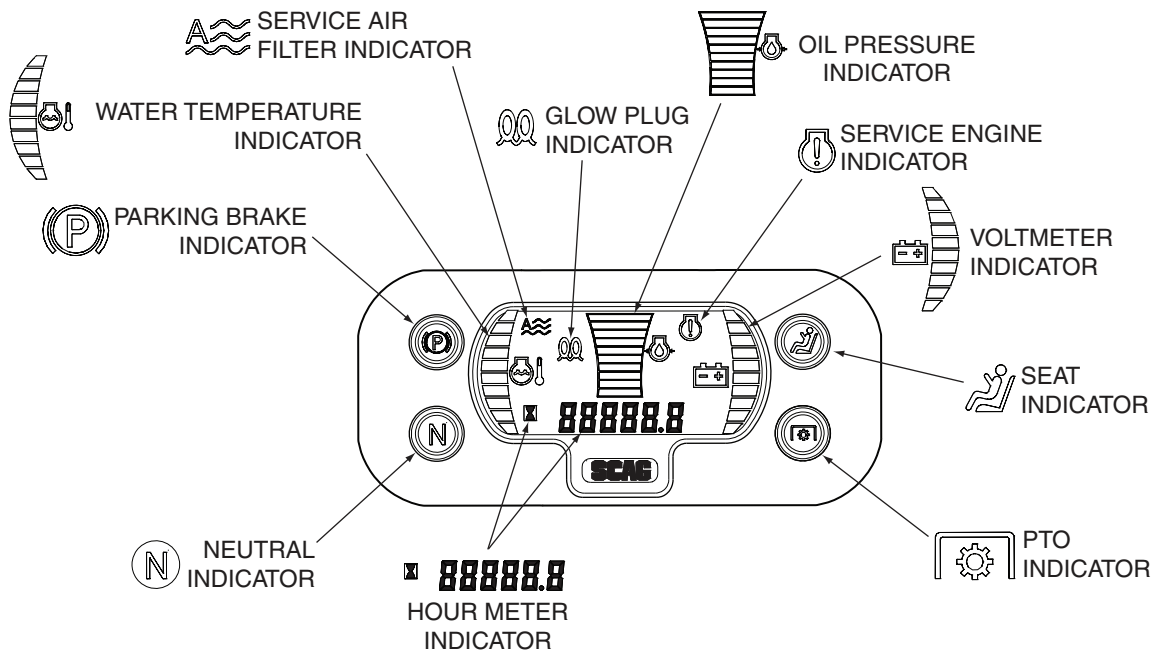

Figure 4-1. Tiger Eye Advanced Monitoring System
1. **Service Air Filter Indicator (Figure 4-1). Optional Accessory.** Indicates the condition of the engine air filter. Icon will display when it is time to change the air filter.
2. **Glow Plug Indicator (Figure 4-1). Used on Diesel Powered Units Only.** Indicator turns on when the key switch is turned to the PREHEAT position. Glow plugs must be preheated for 5 to 10 seconds before starting the engine.
3. **Oil Pressure Indicator (Figure 4-1). Used on Diesel Powered Units Only.** Indicates engine oil pressure. Reference the engine operator's manual for further information.
4. **Service Engine Indicator (Figure 4-1).** Indicates the maintenance reminder for the engine oil change. Has preset maintenance reminder and will start flashing scheduled maintenance 2 hours before preset time and continue flashing until 2 hours after. Automatically resets.
5. **Voltmeter Indicator (Figure 4-1).** Indicates the condition of the charging system. When the engine is running, in normal operating conditions, the bar graph should be in the 12 to 14 volt range.
6. **Seat Indicator (Figure 4-1).** Light will illuminate when the operator is in the seat engaging the seat switch.
7. **PTO Indicator (Figure 4-1).** Light will illuminate when the PTO (mower deck) switch is in the OFF position.
8. **Hourmeter Indicator (Figure 4-1).** Indicates the number of hours the engine has been operated. It only operates when the engine is running. Will start flashing with the Service Engine Indicator at scheduled maintenance 2 hours before preset time and continue flashing until 2 hours after. Automatically resets.
9. **Neutral Indicator (Figure 4-1).** Light will illuminate when the steering control levers are in the neutral lock position.
10. **Park Brake Indicator (Figure 4-1).** Light will illuminate when the park brake is in the engaged (ON) position.
11. **Water Temperature Indicator (Figure 4-1). Used on Liquid Cooled Models Only.** Indicates the operating temperature of the engine. If the engine temperature exceeds the maximum preset value, the indicator will flash and the Park Brake, PTO, Seat and Neutral indicator lights will flash in an alternating pattern.
7. **Brake Pedal (Figure 4-1).** Depressing the brake pedal applies the brake.
Do not travel forward over a curb. The mower will hang up on the curb. Raise the deck and travel backwards over the curb at a 45 degree angle. (See Figure 4-1 items 12-14 for cutter deck raising description.)